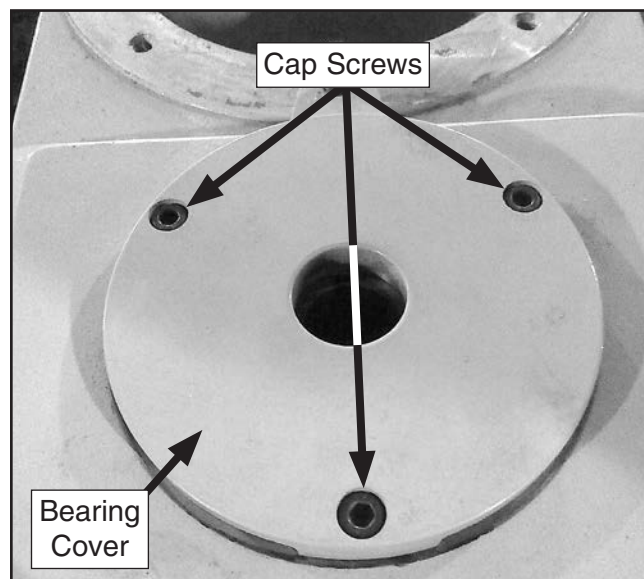

Figure 98. Spindle bearing cover located on top of headstock.
5. Remove (3) cap screws from spindle bearing cover (see **Figure 98**).